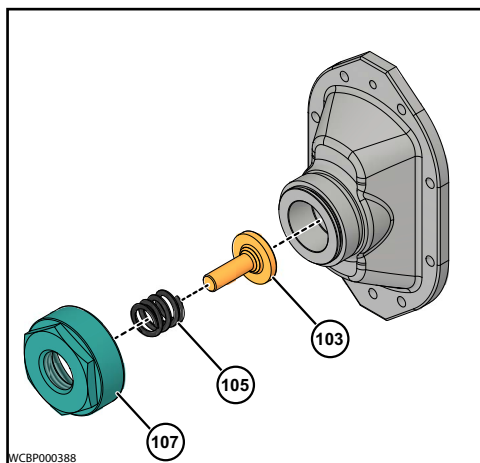

Figure 88 - Remove Spring Plunger
2. Remove the Cover Nut (107) and Spring Plunger (103) along with Spring (105), as shown in Figure 88.